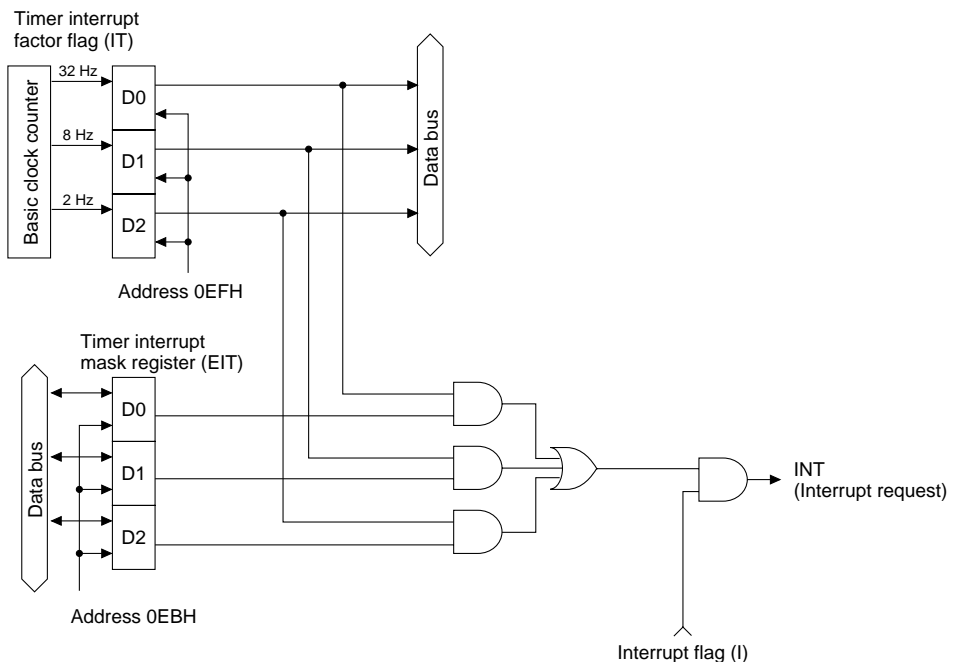

Fig. 3.8.2
The flag is reset, when it is loaded by software. (See Figure 3.8.2.)
- EIT32** This register enables or masks the 32 Hz timer interrupt. The CPU is interrupted if it is in the EI state when the interrupt mask register (EIT32) is set to "1" and the interrupt condition flag (IT32) is "1". (See Figure 3.8.2.)
- EIT8** This register enables or masks the 8 Hz timer interrupt. The CPU is interrupted if it is in the EI state when the interrupt mask register (EIT8) is set to "1" and the interrupt condition flag (IT8) is "1". (See Figure 3.8.2.)
- EIT2** This register enables or masks the 2 Hz timer interrupt. The CPU is interrupted if it is in the EI state when the interrupt mask register (EIT2) is set to "1" and the interrupt condition flag (IT2) is "1". (See Figure 3.8.2.)